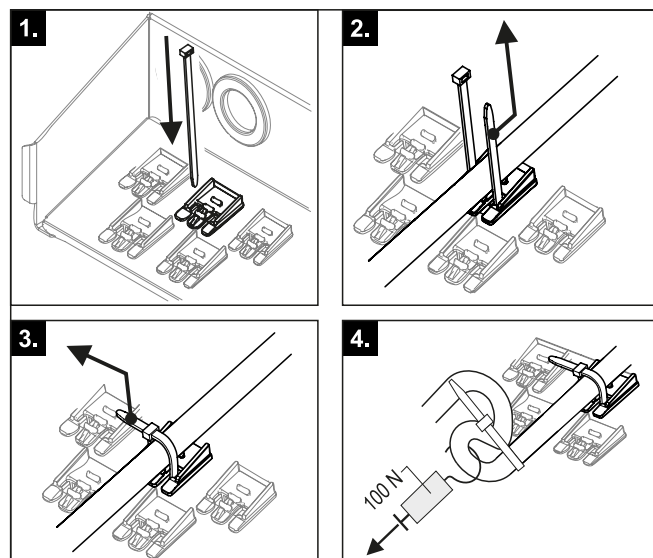

Fig. 4-34 Establishing and checking the strain relief
- 7 Effective strain relief in the controller housing by means of cable ties must be ensured for all cables connected to the indoor unit (steps 1 – 3, Fig. 4-34).
- 8 Check the holding force of the strain relief (step 4, Fig. 4-34).